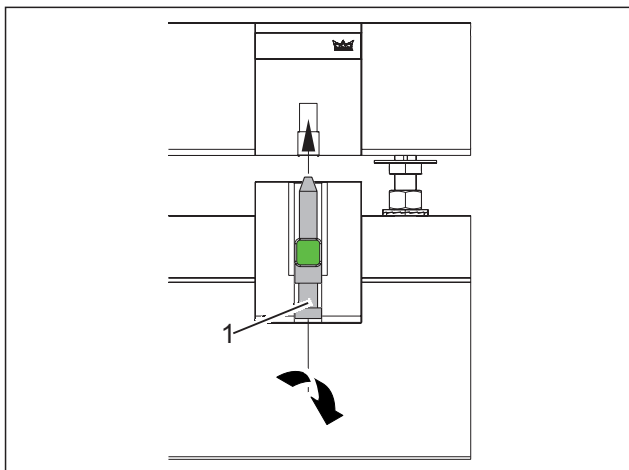

Fig. 9 Locking bolt
1. Use a crank handle (Fig. 9/1) to screw in the locking bolt by approx. 3/4 of a turn upwards.